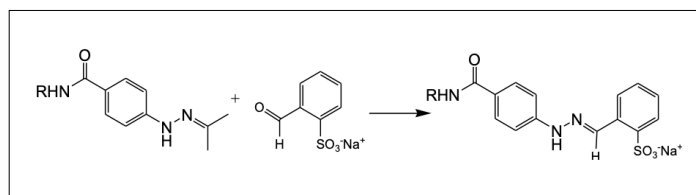

Figure 2: Colorimetric reaction used to quantify number of HyNic linkers on a biomolecule.
- The molar substitution ratio (MSR) can be determined using a colorimetric reaction as outlined in Figure 2 below. Addition of 2-sulfobenzaldehyde to a HyNic-modified biomolecule yields a bis-aryl hydrazone that absorbs at 350 nm. Refer to the HyNic-Protein MSR Calculator as well as the protocol that is appropriate for your lab equipment: HyNic Protein MSR Instructions.